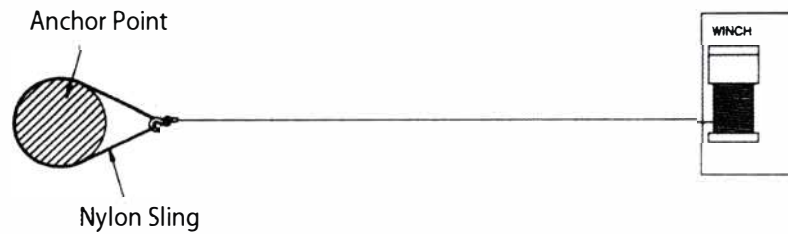

Figure 18
3. Figure 18 illustrates the most commonly used rigging. A nylon sling is used to protect the tree when it is used as an anchor, and the metal or synthetic rope is attached to use the sling. The use of a chain or metal or synthetic rope is not recommended due to the damage it could cause to the tree.